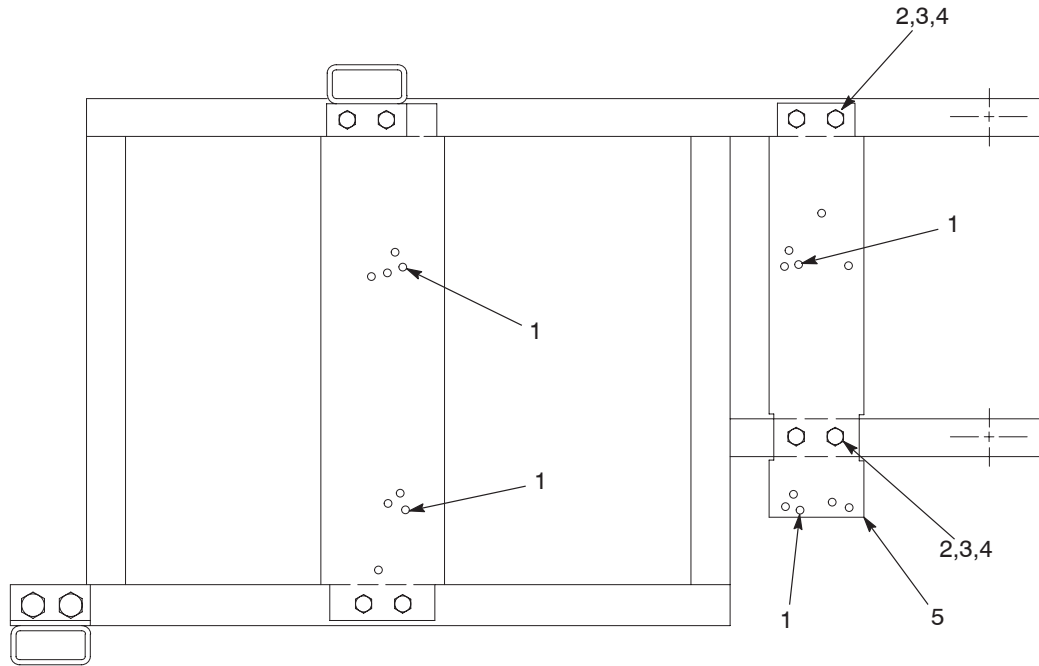
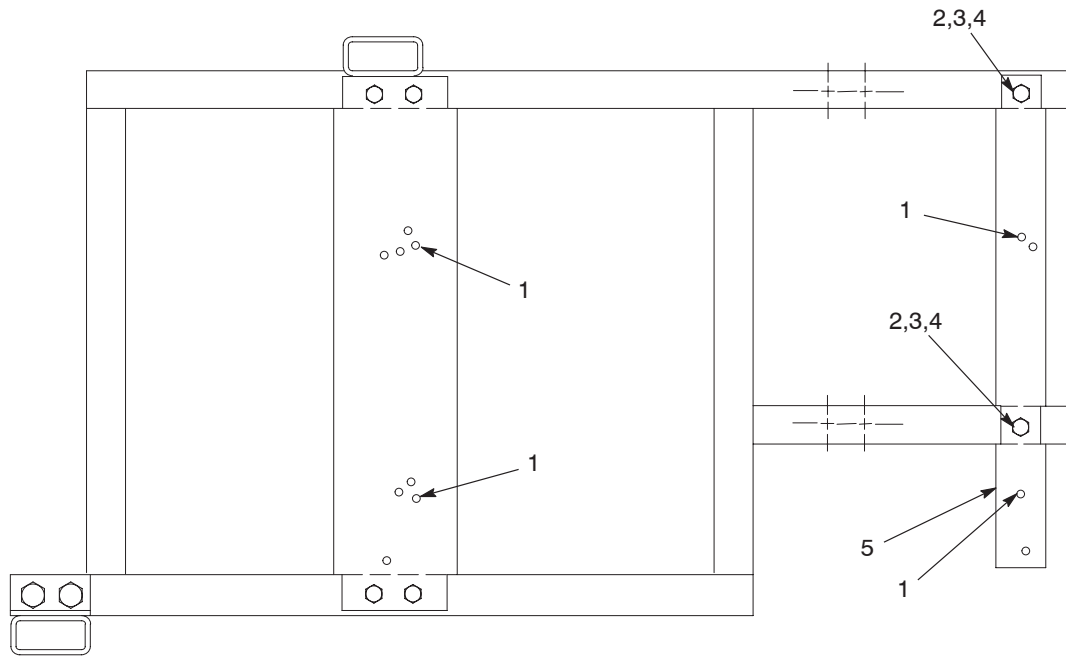

Figure 3-5 Series 3400 and 3500 mounting bracket bolt pattern
Figure 3-6 Series 3700 mounting bracket bolt pattern
5. Position the unit on the mounting bracket and align the bolt holes. The unit hose manifold and connections should face away from the hopper/feeder. The back of the unit should be under the hopper/feeder chute. See Figure 3-5 for Series 3400 and 3500 units or Figure 3-6 for Series 3700 units.